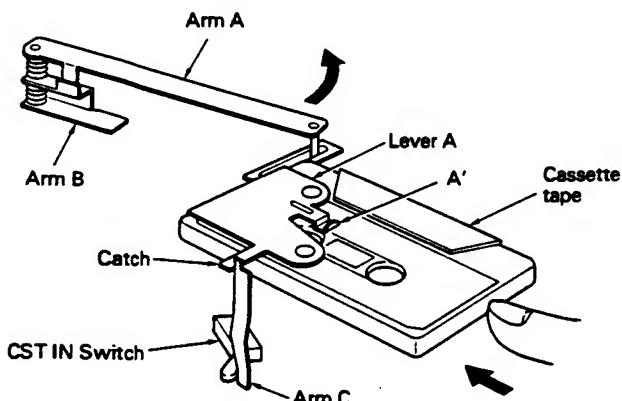
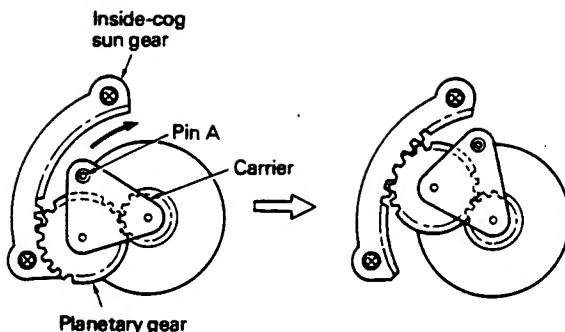

Fig. 9
Fig. 11
3. The carrier then moves clockwise because the planetary gear moves along the inside-cog sun gear. Pin "A" which is caulked to the carrier also moves in the same direction. (Fig. 11) The movement of pin "A" is causing arm "B" to move counterclockwise. Arm "A" turns in the same fashion and the "A'" unit of lever "A" draws the cassette tape in. (Fig. 9)